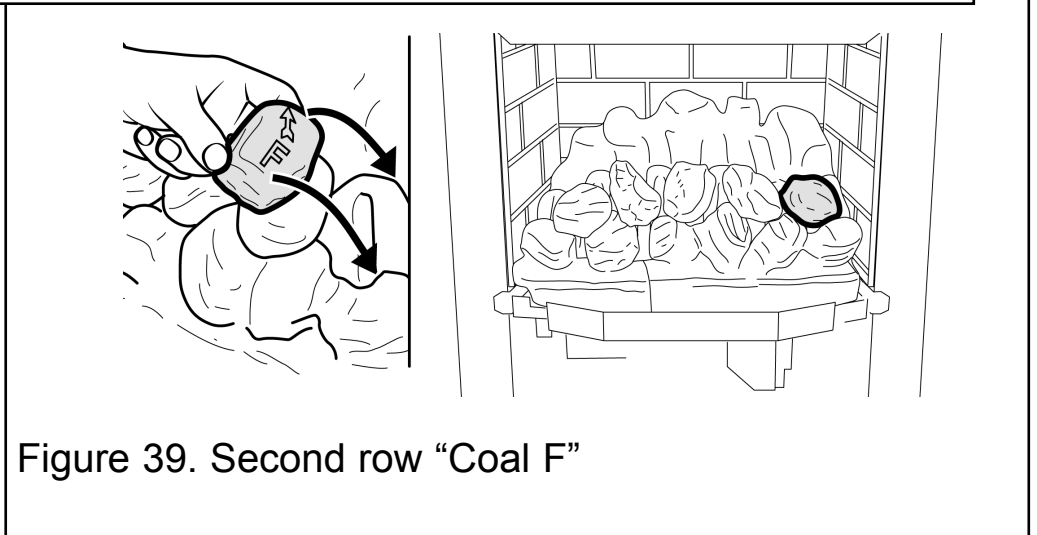

Figure 39. Second row "Coal F"
**13.** Hold coal 'F' upright with the arrow pointing to the top. Locate coal 'F' as shown in figure 39.